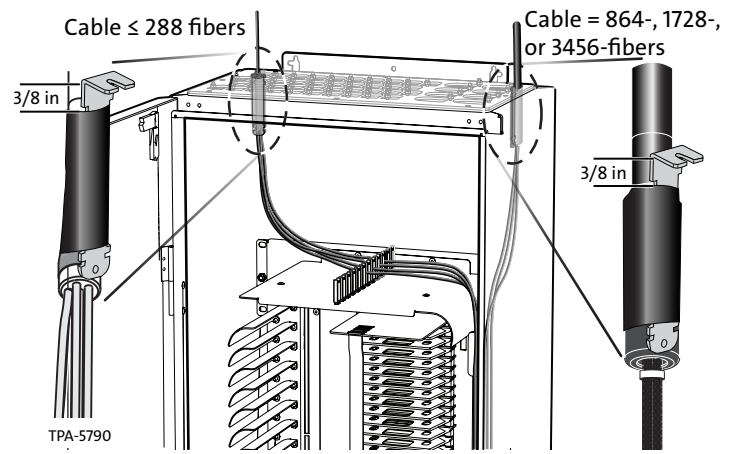

Figure 6
Step 1: After installation of the furcation kit, slide the heat-shrink tube from the cable entry kit down over the furcation body for central tube ribbon cables and to the end of the cable jacket for extreme-density cables. Slide the cable entry bracket into the tube, as shown in Figure 6.